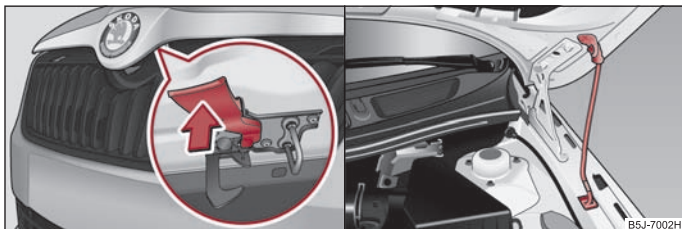

Fig. 13 Radiator grille: Locking lever / securing the bonnet with the bonnet support
- Pull on the locking lever ⇒ fig. 13 - left, the bonnet is then unlocked.
- Take the bonnet support out of its holder and set it in the opening designed for it ⇒ fig. 13 - right.